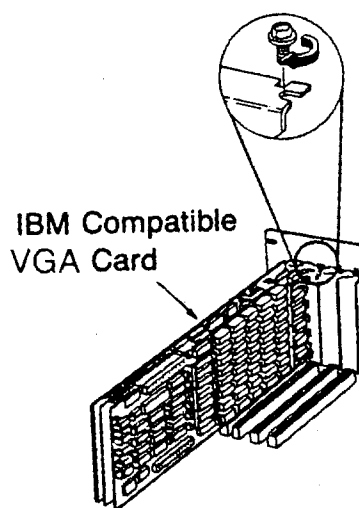

Fig 2.2
2. Install the VGA card according to the instructions accompanying the graphics cards. (Fig 2.2)